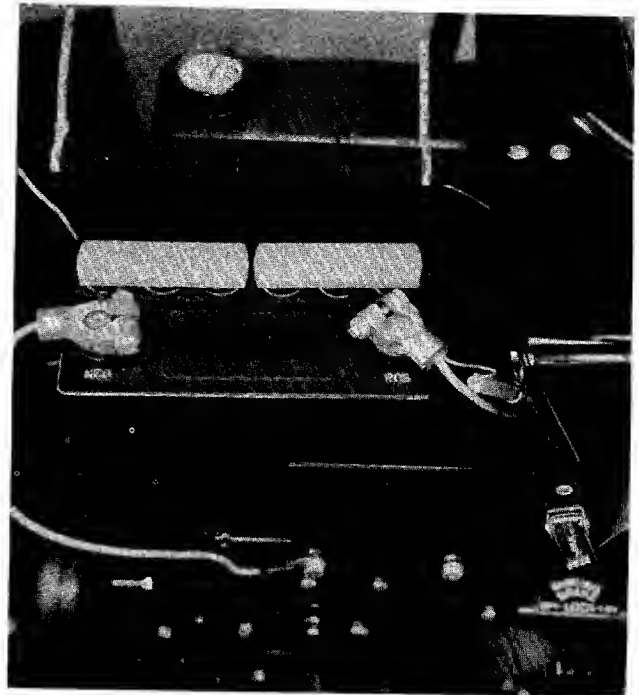

Figure 1
2. Attach the positive battery cable (which has two wires) to the positive battery terminal. (See figure 1.)